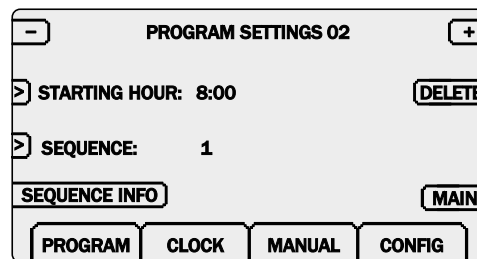

Figure 9 Starting hours programming screen
- 2 Up to 24 automatic starting hours can be programmed. Use the + and – keys (Figure 9) to choose an automatic start. Press the STARTING HOUR key and enter the time with the keypad.